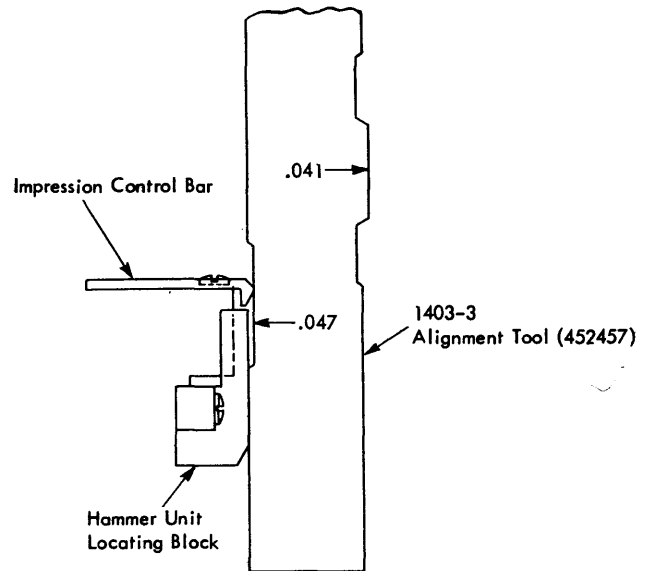

Figure 89. Impression Control Bar Positioning
2. Check, and adjust, if necessary, the .047" location of the impression control bar. Use tool (part 452457) and measure between the front edge of the impression control bar and the front edge of the hammer unit locating block (see Figure 82). Adjust the position of the impression control wedges to get the .047" dimension (Figure 89). Check both ends. Loosen the wedge holding screw and insert a screwdriver into the wedge slot to move the wedge. Tighten the holding screw.